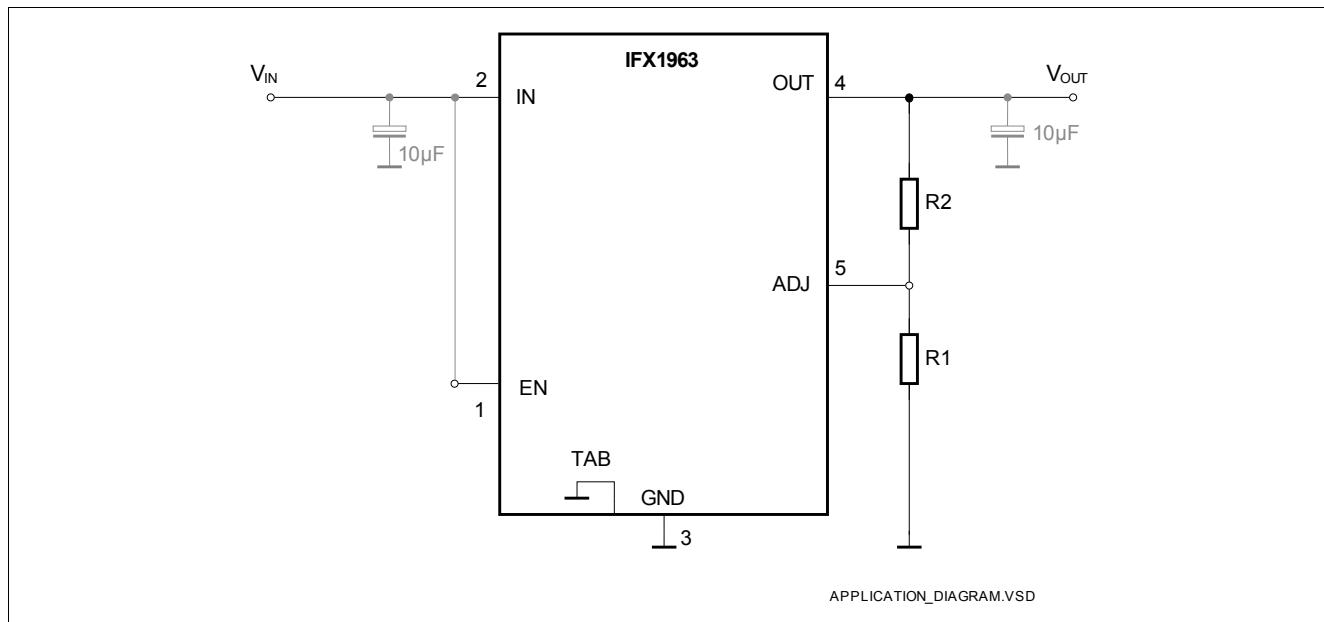

Figure 4 Application Diagram
The IFX1963 has an output voltage range of 1.21 V to $V_{IN} - V_{DR} < 20$ V. The output voltage is set by the ratio of two external resistors as shown in **Figure 4**. The device serves the output to maintain the voltage at the ADJ pin at 1.21 V referenced to ground. The current in R1 is then equal to 1.21 V / R1 and the current in R2 is the current in R1 plus the ADJ pin bias current. The ADJ pin bias current, 1 µA at 25 °C, flows through R2 into the ADJ pin. The output voltage can be calculated using the formula in **Equation (1)**.